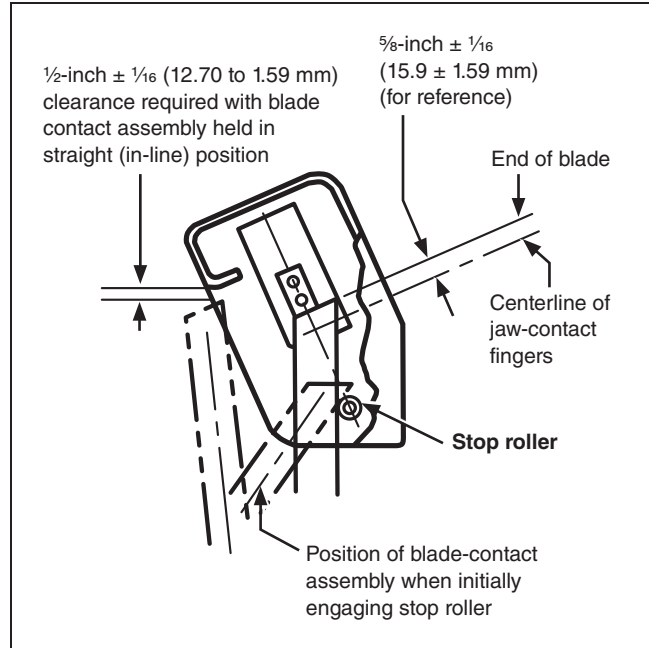

Figure 22. Raise or lower the switch to attain a  $\frac{1}{2}$ -inch clearance with the contact hood.
- (a) Operate the switch towards the closed position, stopping when the blade contact assembly first engages the stop roller. See Figure 22. Straighten the blade contact. There should be a  $\frac{1}{2}$  to  $\frac{1}{16}$  inch (12.70 to 1.59 mm) clearance between the tip of the blade-contact and the top of the jaw-contact hood. If the blade clearance is too shallow or too deep, adjust the length of the blade as described in Step 7 on page 17.
- Holding the vertical position of the blade to the mark, raise or lower the blade assembly in the blade clamp so that there is a ½-inch (12.70 mm) clearance between the end of the blade-contact assembly and the jaw-contact housing. See Figure 22 on page 16. (This step may require two assembly technicians, one at the base of the blade and one located at the jaw-contact.)